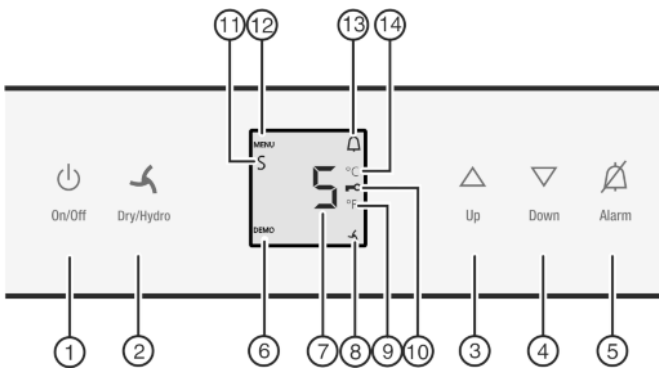

Fig. 2
- ▶ Press On/Off button Fig. 2 (1).
- ▶ To activate setting mode: Press and hold the Dry/Hydro button Fig. 2 (2) for approx. 5 s.
- ▷ The Menu symbol Fig. 2 (12) lights up.
- ▶ Using Up button Fig. 2 (3) / Down button Fig. 2 (4) select °.
- ▶ To confirm: Briefly press the Dry/Hydro button Fig. 2 (2).
- ▶ Using Up button Fig. 2 (3) / Down button Fig. 2 (4) select °F or °C.
- ▶ To exit setting mode: Press On/Off button Fig. 2 (1).
- ▶ To activate setting mode: Press and hold the Dry/Hydro button Fig. 2 (2) for approx. 6 s.
- ▶ Press the Dry/Hydro button Fig. 2 (2) briefly to confirm. When **c1** is shown on the display:
- ▶ To switch on the child-proof lock, press the Dry/Hydro button Fig. 2 (2) briefly.
- ▷ The Child safety symbol Fig. 2 (10) lights up. **c** flashes on the display.
- ▶ To switch off the child-proof lock, press the Dry/Hydro button Fig. 2 (2) briefly.
- ▷ The Child Safety symbol Fig. 2 (10) goes out. **c** flashes on the display.
- ▶ To cancel setting mode: Press the On/Off button Fig. 2 (1).
- ▶ Press Alarm button *Fig. 2 (5)*.
- ▶ To activate setting mode: Press and hold the Dry/Hydro button *Fig. 2 (2)* for approx. 5 s.
- ▶ To access the Sabbath mode function: Briefly press the Dry/Hydro button *Fig. 2 (2)*.
- ▶ **To turn on** Sabbath mode, briefly press the Dry/Hydro button *Fig. 2 (2)*.
- ▶ **To turn off** Sabbath mode, briefly press the Dry/Hydro button *Fig. 2 (2)*.
- ▶ To deactivate setting mode: Press the On/Off button *Fig. 2 (1)*.
- ▷ The Sabbath Mode symbol *Fig. 2 (11)* appears on the temperature display as long as Sabbath Mode is active.